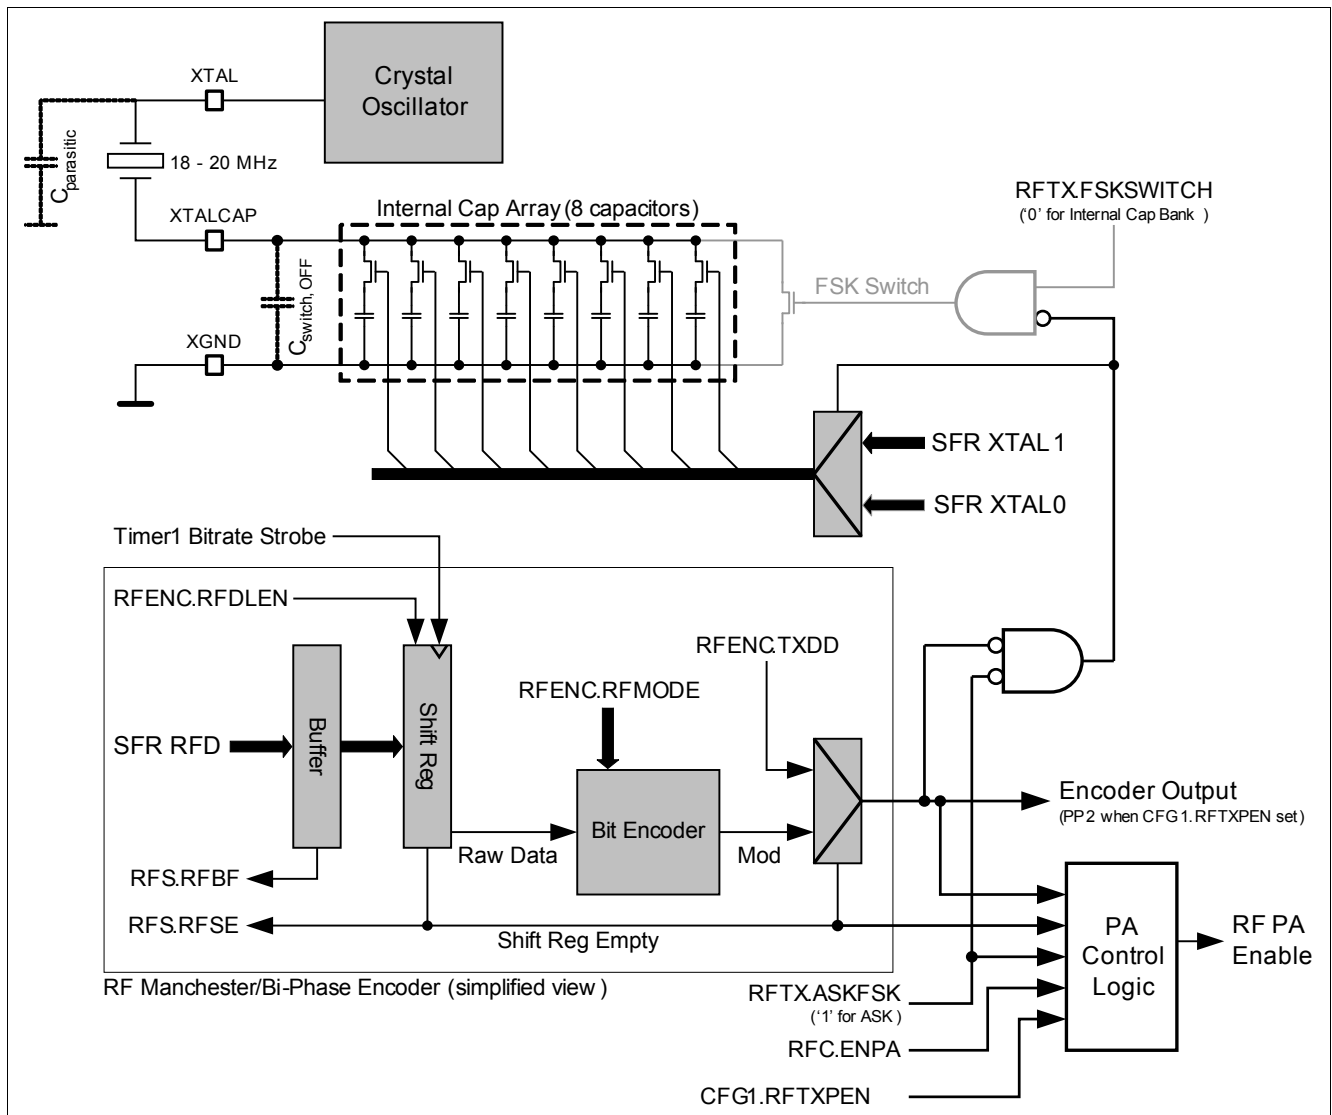
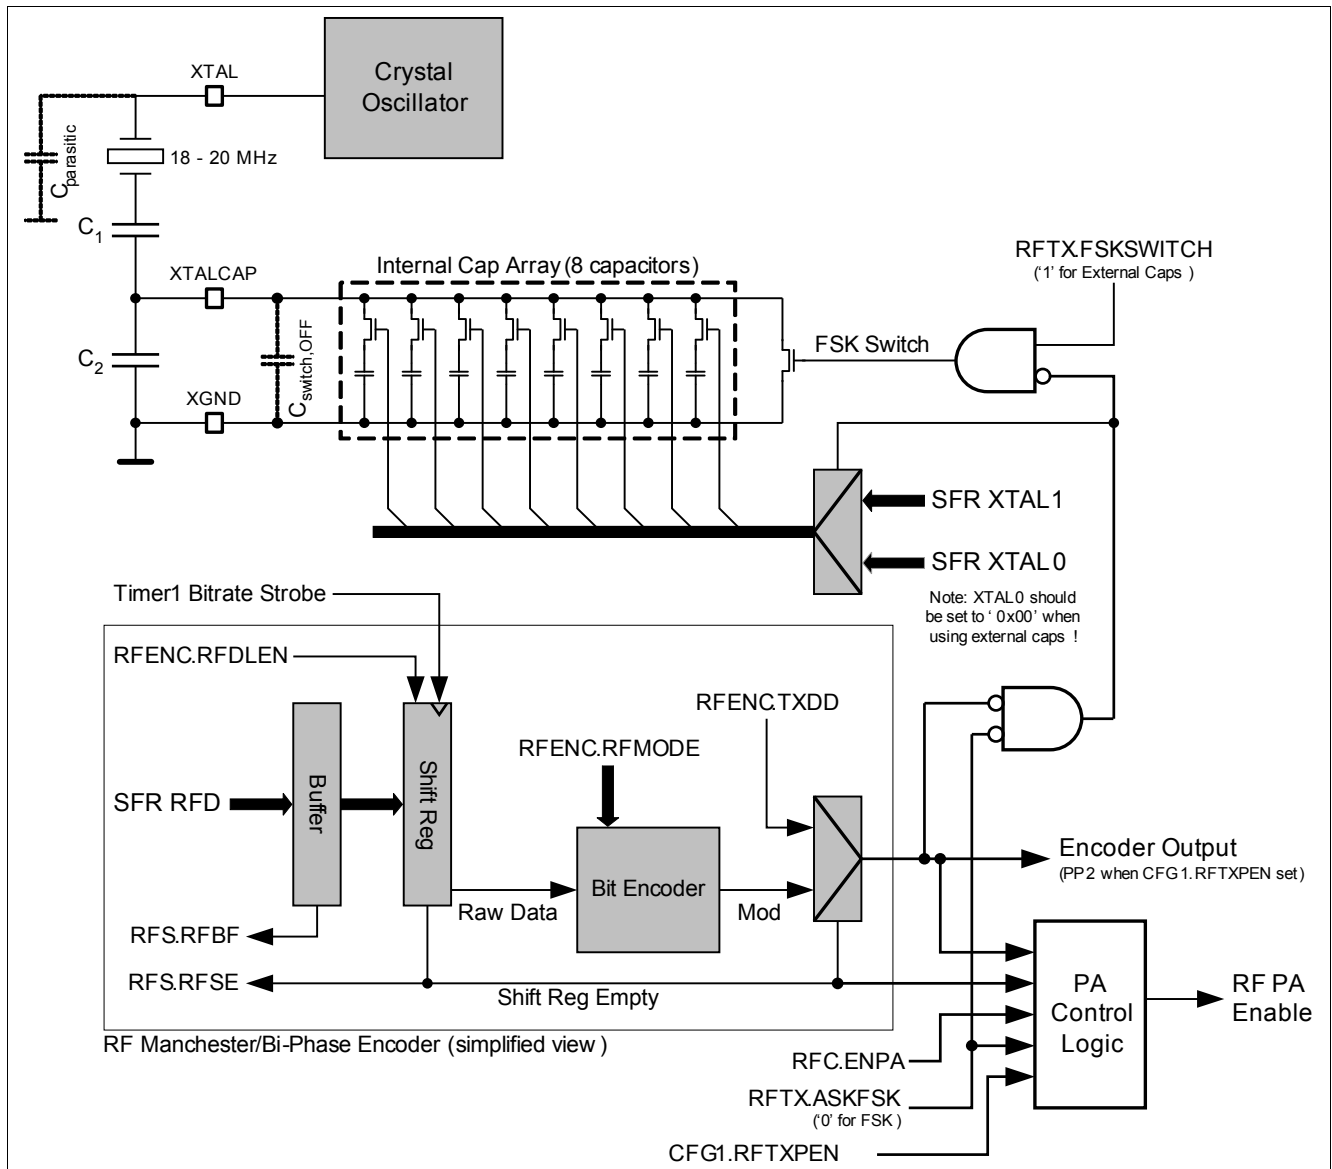

Figure 11 FSK using the internal capacitors
Figure 13 FSK using only external capacitors
Note: $C_{parasitic}$ used in Figure 11, Figure 13 and Figure 14 is the overall parasitic capacitance between the pins XGND and XCAP (switch, bond wires, pad parasitics,...). The formulas for calculating the resulting capacitance for ASK/FSK (C_{ASK} , $C_{FSKHIGH}$, C_{FSKLOW}) only take into account the dominating factor of $C_{Switch, OFF}$. Specification for the parasitic capacitance can be found in Table 44 "Crystal Oscillator, fCrystal = 18 MHz...20 MHz" on Page 162.
- In the configuration shown in **Figure 11** the internal capacitors are used. The desired capacitor values must be selected by using SFR XTAL1 and SFR XTAL0. The exact values used should be verified by module level testing.
- In the configuration shown in **Figure 13** the FSK switch is used in conjunction with external capacitors. Guidelines for determining the external capacitor values are **Equation (6)** and **Equation (7)**. The exact values used should be verified by module level testing.